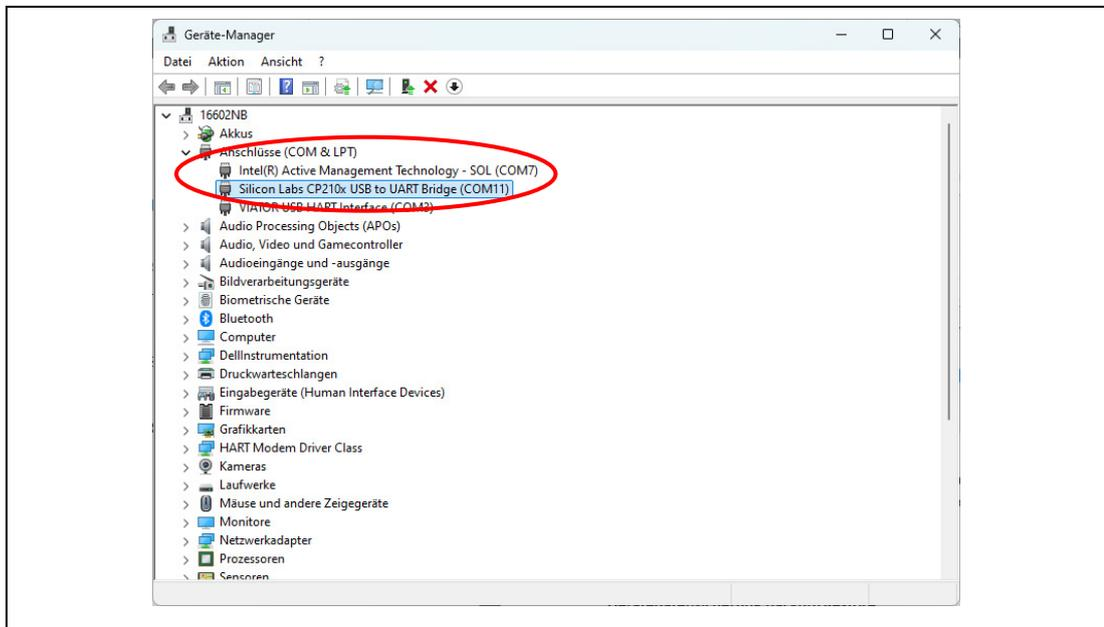

Figure 6 Checking the COM-Port of the service modem in the device manager.
- **Port:** Select the correct COM port (USB port) for the service modem. Refer to the information box and Figure 6 below.
It is particularly important to ensure that the correct COM port is selected. Normally, the selection should automatically be correct. However, if it does not work, a check can be performed. Open the Device Manager and check the section "**Ports (COM & LPT).**" The service interface and the associated COM port will then be visible, as shown in Figure 6.